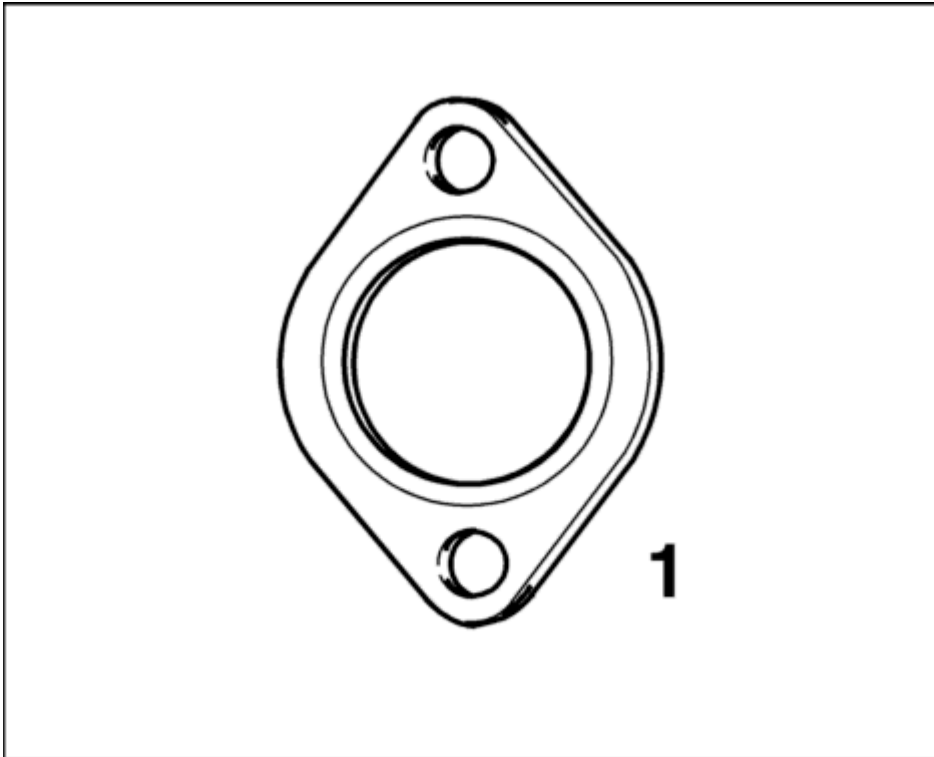

Fig. 162: Installation position of retainer plate for solenoid hydraulic valve for camshaft timing
4. Remove retainer plate with integrated seal -1- from the valve. See Fig. 162.